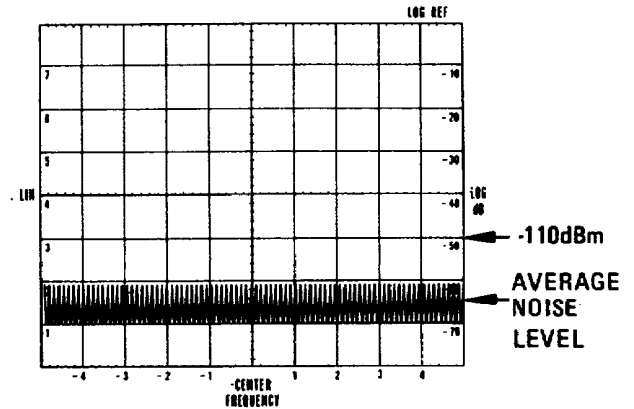

Figure 4-13. Residual Response Test:
3. Observe the display as the analyzer scans from 10 to 110 MHz. The average noise level should be less than -110 dBm and no residual responses should occur. Figure 4-13 represents a scan with no residual response, and with the average noise level indicated.